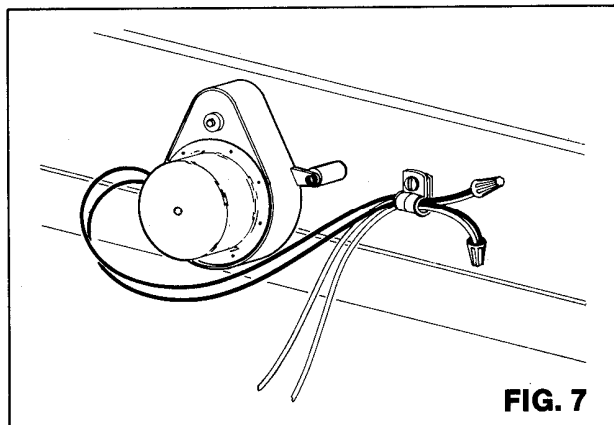

FIG. 7
Push the wires, at the humidifier motor, inside the strain relief and use one (1) 3/8 inch long sheet metal screw to attach the assembly to the right side of the motor (Fig. 7).